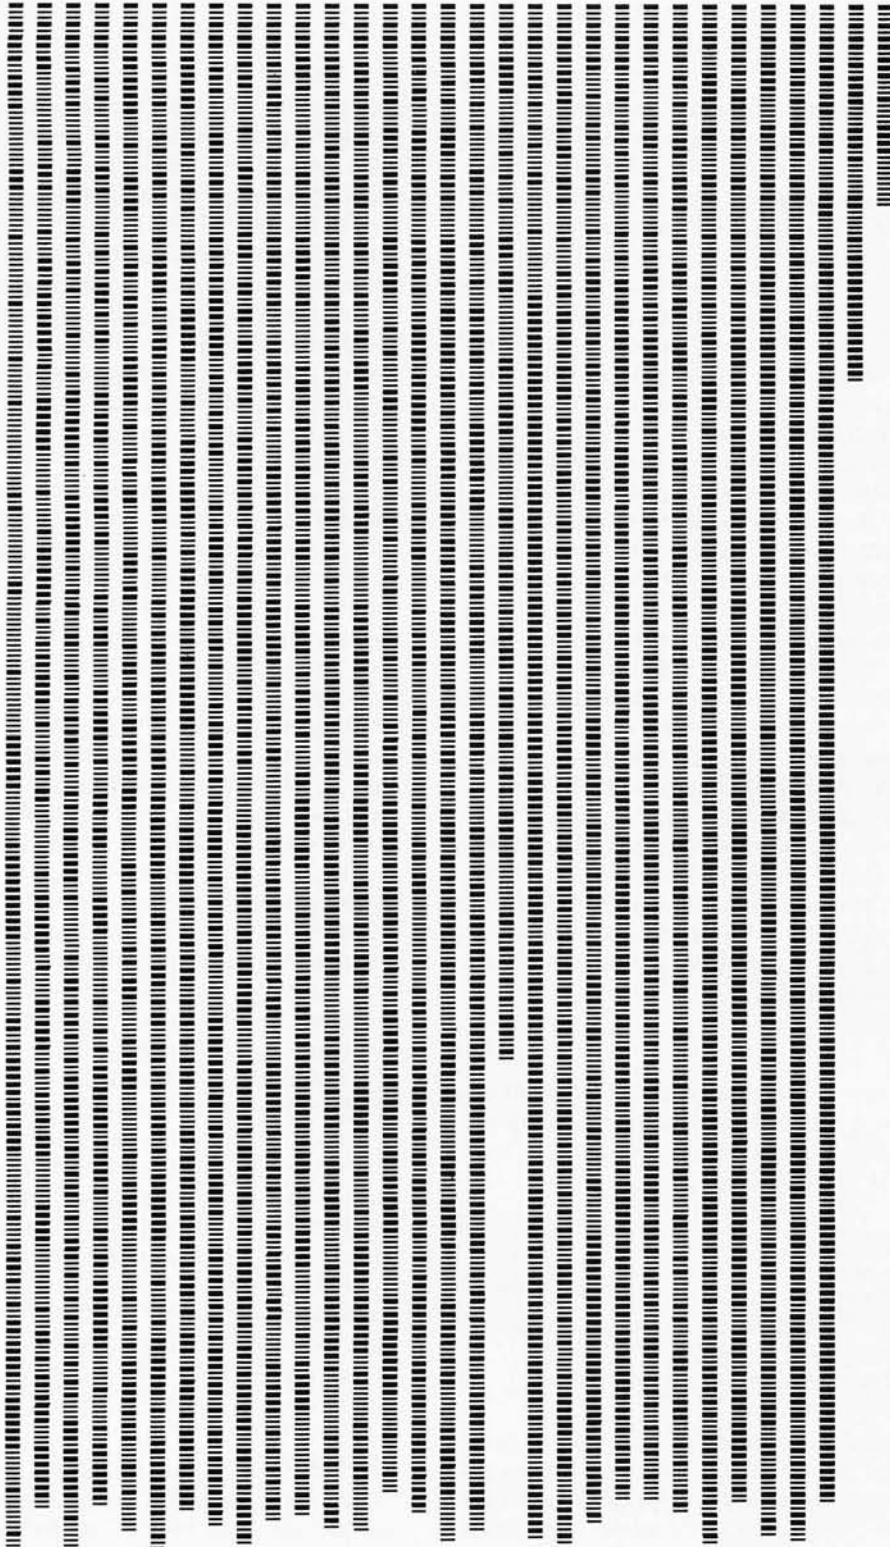

Figure 2: PAPERBYTE™ bar code version of listing 2. For details on how to read bar codes, see Bar Code Loader, a PAPER-BYTE™ book by Ken Budnick.
*Listing 2: The object code listing in hexadecimal format of the assembly language program given in listing 1. This listing can be used to manually enter the program or as a confirmation copy for the PAPERBYTE™ bar code representation given in figure 2. The format used for this listing is a 2 byte address field, followed by up to 16 bytes of data, with a 1 byte check digit at the end of each line. Note that the data in hexadecimal locations 0400 to 04FF constitute the sine and cosine lookup table which must be loaded with the transform subroutine.*